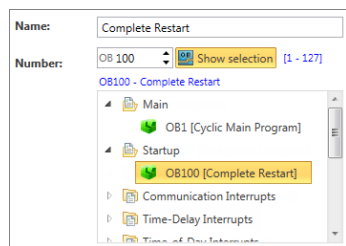

Fig. 142: Select OB
**OB:** You can select predefined organisation blocks from a list: Click on **'Show selection'** and select the desired OB from the list. Fig. 142